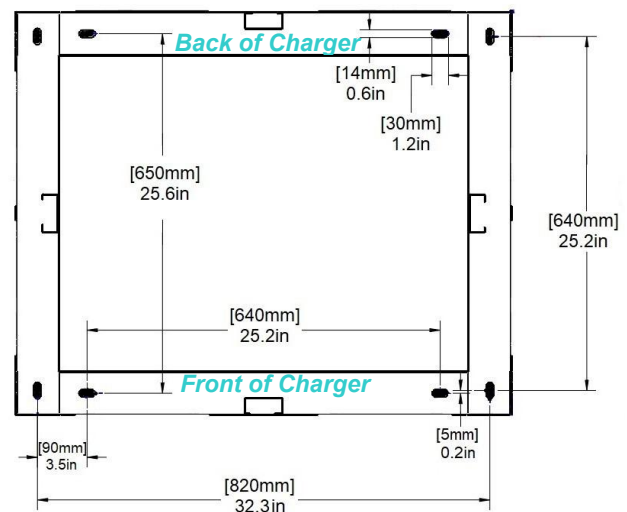

Figure 9- Dimensions for Drill hole patterns (8 drill holes darkened)
- 4.1 Mark the drill hole patterns (black ovals shown in Figure 9) summarized here:
13. Safely lift the charger off the prepared location on concrete and temporarily move it aside. The 8 wedge anchor window markings should look like the 8 markings in Figure 9.